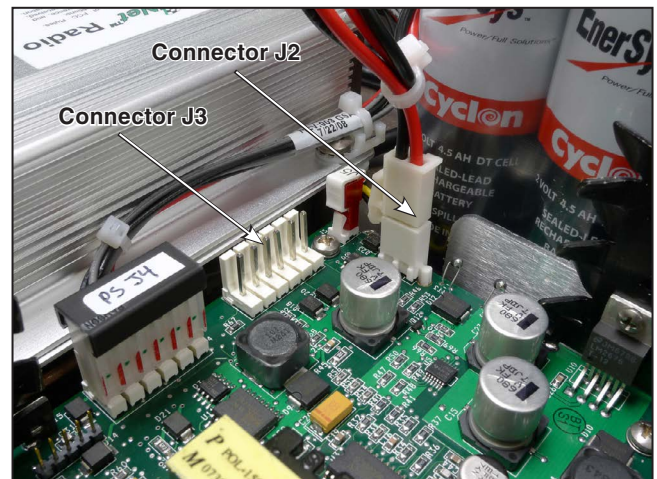

Figure 1. Connectors J2 and J3 on the battery charger board.
- (c) Disconnect the battery cable connector from connector J2 on the battery charger board and remove the cable tie. See Figure 1.
- (f) Connect the new battery disconnect cable (Catalog Number 007-001534-01) to Connectors J2 and J3 on the battery charger board. See Figure 1.